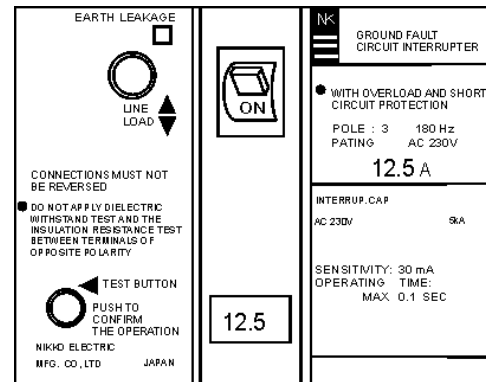

Figure 23. 60 and 180 Hz Breakers (ON)
- Place the 180 Hz, 12.5 amp circuit breaker (Figure 23) in the **ON** position.